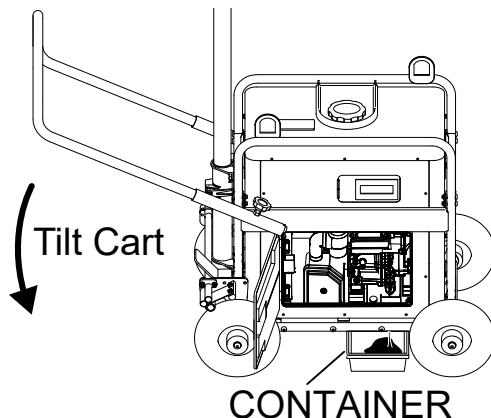

Figure 35. Draining the Oil
7. Tilt cart to drain the engine oil into the container (Figure 35).